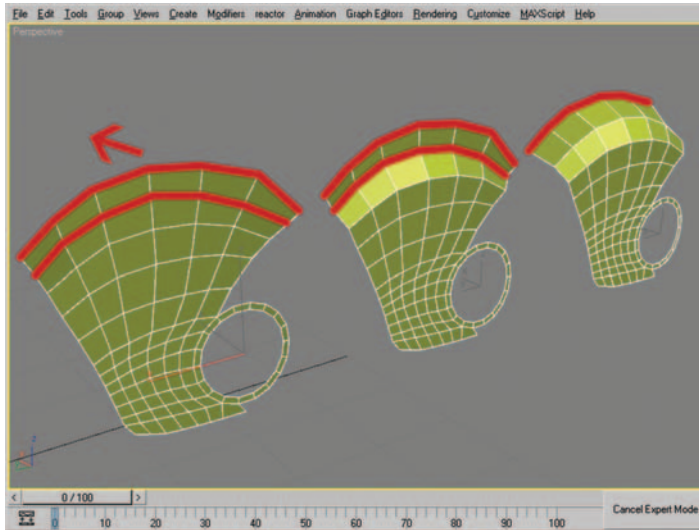

Figure 8.17 Edge selection and mesh after moving edges to create depth.
20. Select the top two rows of edges, and in the perspective viewport, drag them back to create some depth to the fuel tank. Figure 8.17 shows the edge selection as well as the mesh in various stages.